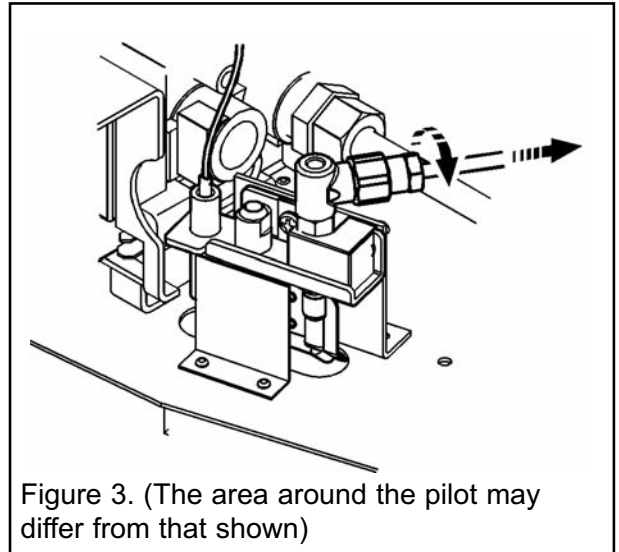

Figure 3. (The area around the pilot may differ from that shown)
- d) Remove the feed pipe from the pilot unit (see figure 3).